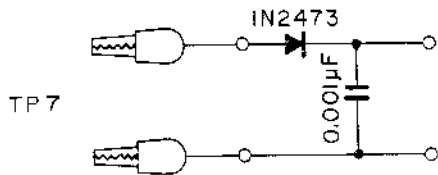

Fig. 7-4
* When it is difficult to observe maximum point of the waveform, use the following rectifier circuit as shown in Fig. 7-4.